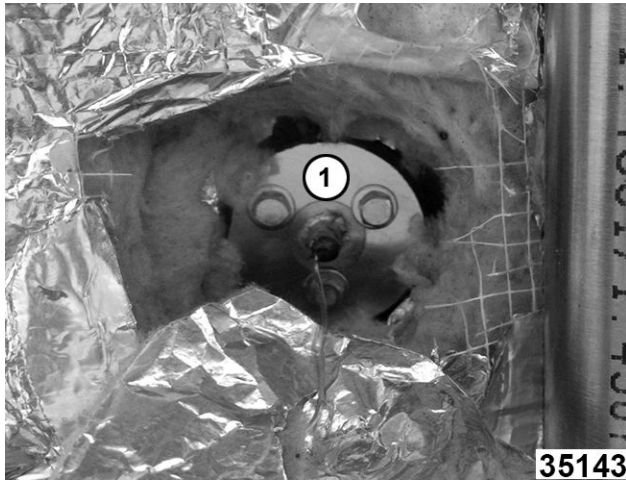

Fig. 20
4. Cut insulation and slide bulb out from center of protective mounting bracket (1, Fig. 20).
7. Apply silicone to end of capillary bulb (1, Fig. 20) to hold high limit in place on protective bracket.